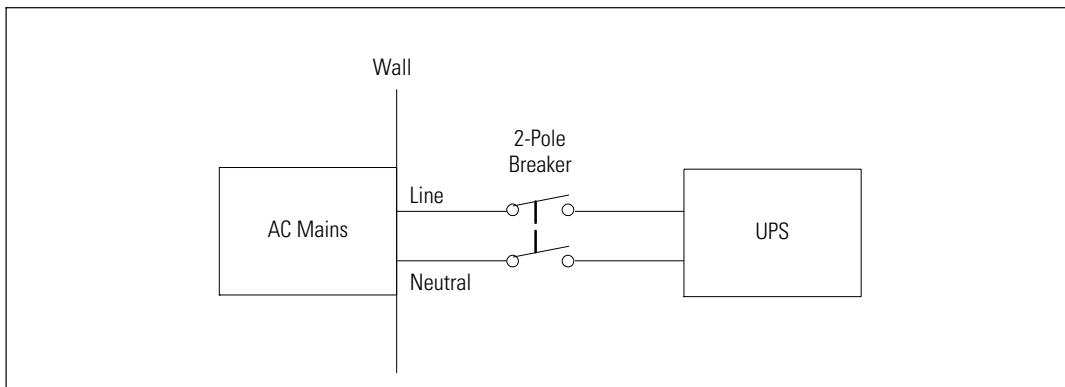

Figure 17. Circuit Breaker Diagram
- The protection device requires a two-pole disconnection device between the UPS output and the load (see Figure 17)